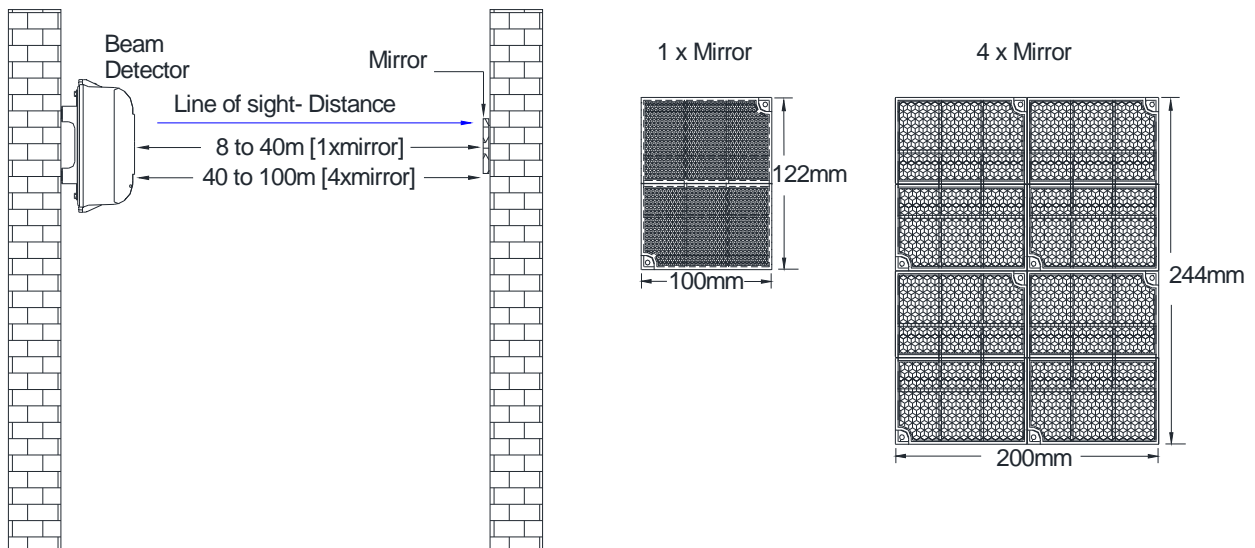

Figure 6: Mounting of TX7130-R Reflector Mirror
1. Depending on the project requirement, if the distance between the detector and the reflector mirror is 8m-40m, install one reflector is enough; if the distance is 40m-100m, four reflectors is required. Refer to Figure 6.
3. Fix the reflector mirror using two ST4x30 standard screws, in the case of one-unit mirror, do the same steps for other mirrors if required. Refer to Figure 6.